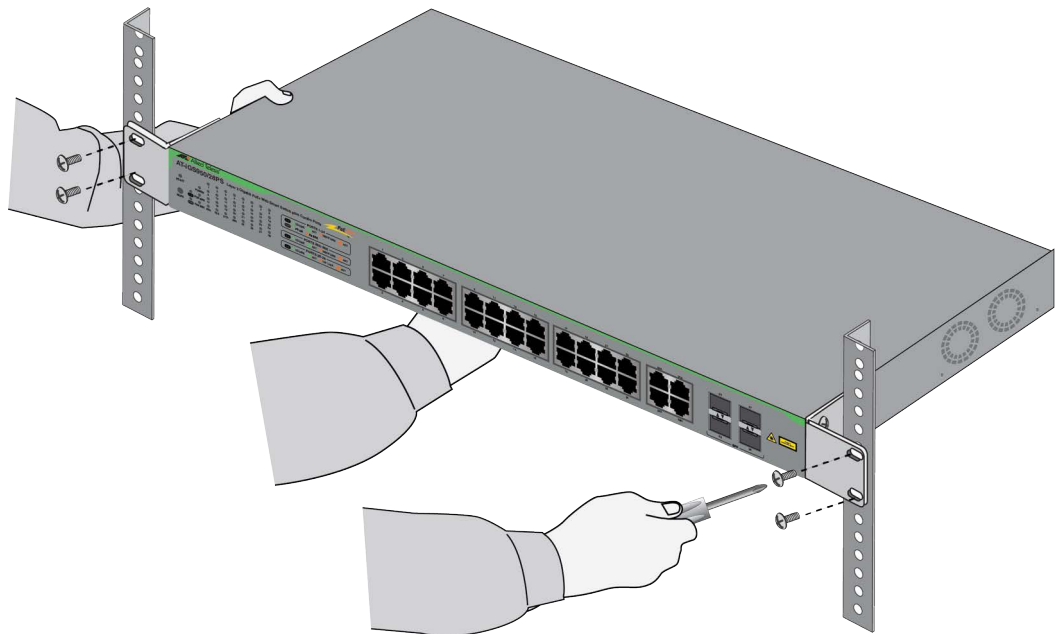

Figure 24. Installing the Switch in a 19-inch Equipment Rack
5. Have another person hold the switch in the equipment rack while you secure it using four standard equipment rack screws. Equipment rack screws are provided with the switch. Refer to Figure 24.